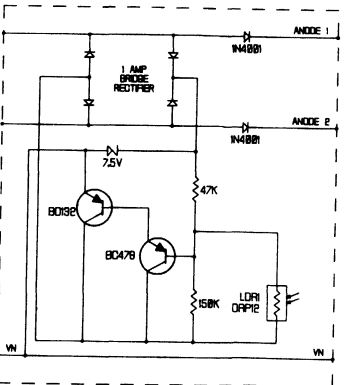

Fig.13 AUTOMATIC BRIGHTNESS CONTROL
- 4. Automatic brightness control Fig.13